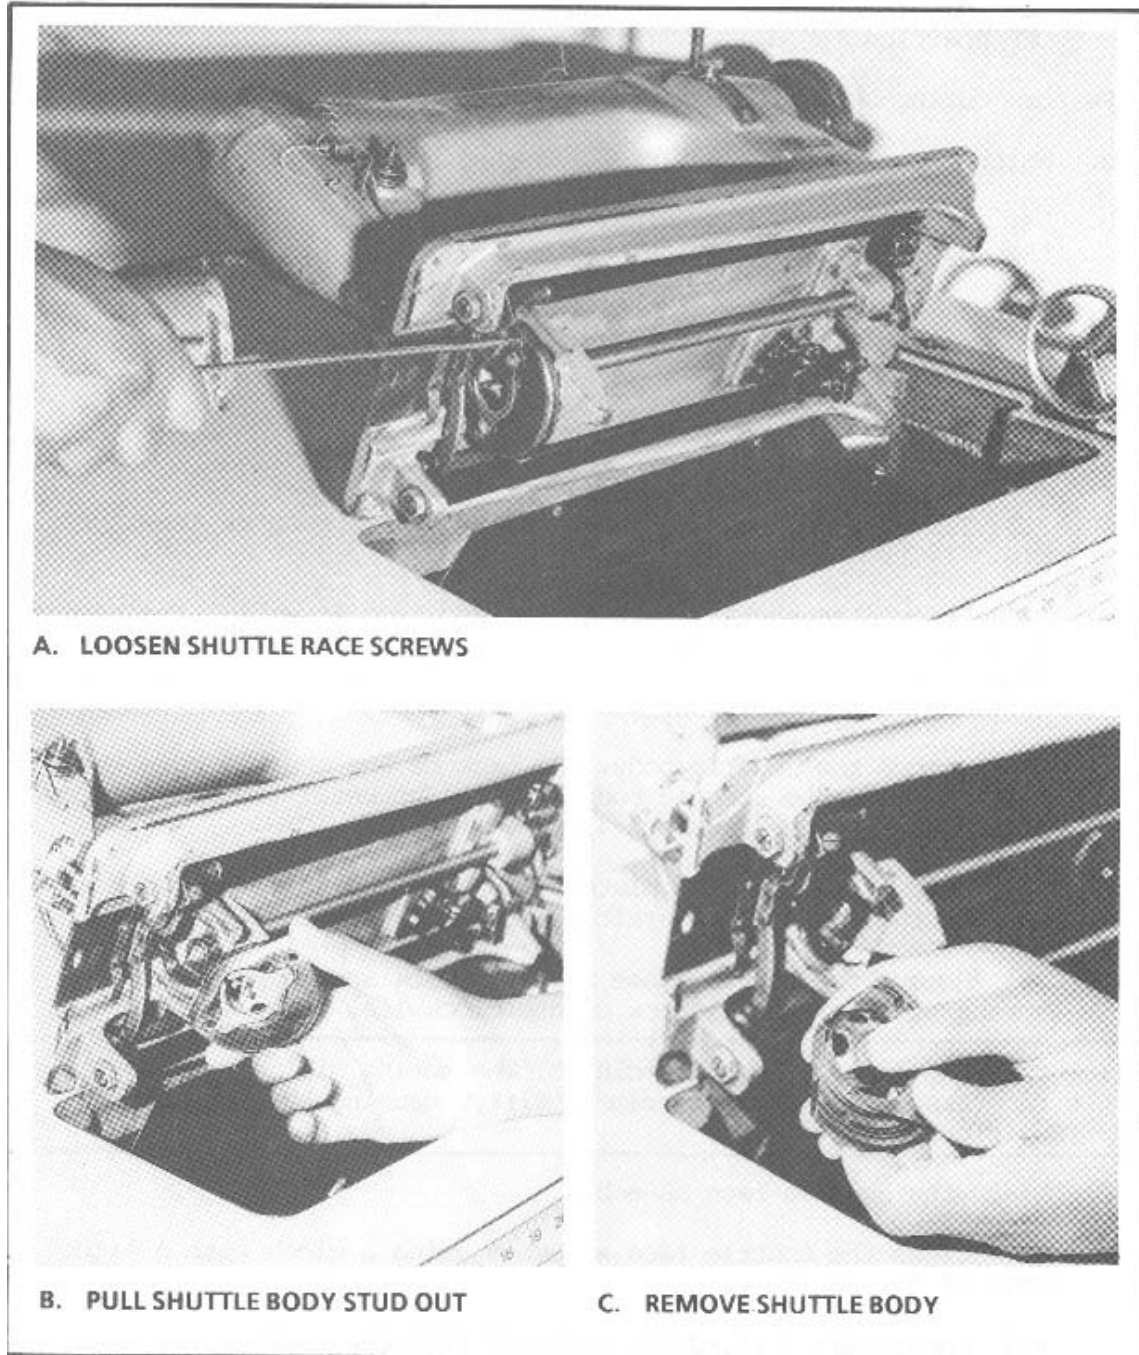

Figure 3-85
- (1) Clean the shuttle race assembly using a cloth with a light coat of oil on it.
- (2) Remove all dirt, dust, and lint from the shuttle race assembly with a clean dry cloth.
- c. Install the shuttle race assembly. (See Figure 3-85)